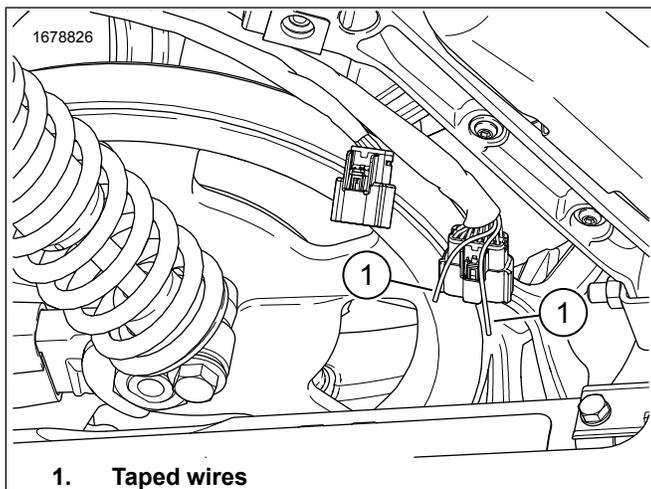

Figure 2. Saddlebag Wires
2. Figure 2 Locate Original Equipment (OE) 16-way connector [C288B_1].